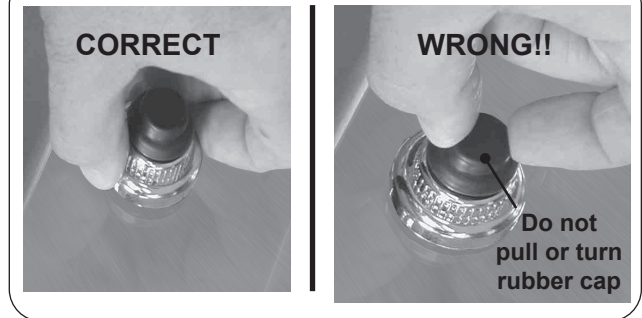

Fig. 36-1 Remove igniter cover
1. Remove the igniter cover by turning it counterclockwise (see Fig. 36-1).